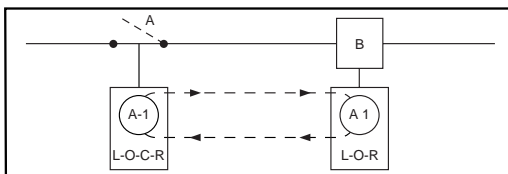

Figure 3
**Sample Application—3 (See Figure 3)**